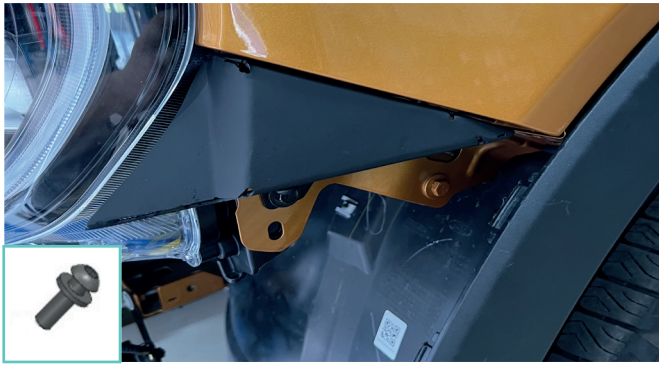

Fig.36
36. Install plugs between wings and lights (item 1, 2) on bolts installed on step 34. Fix it on brackets between wing and light (item 8, 9) using screws M6x20 and washers 6 (item A, H) (fig.36).